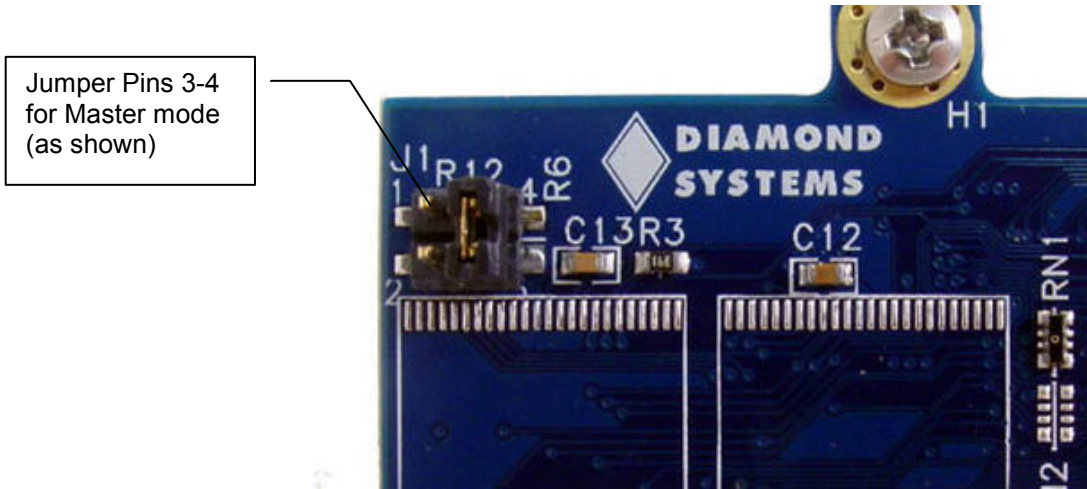

Figure 3. Layout of FlashDisk Module showing Master/Slave jumper
1. The FlashDisk module contains a jumper to determine master or slave mode. The FlashDisk must be in master mode for the BIOS to automatically detect the FlashDisk at boot time. Insure that the jumper is over pins 3-4 to set master mode (See Figure 3).